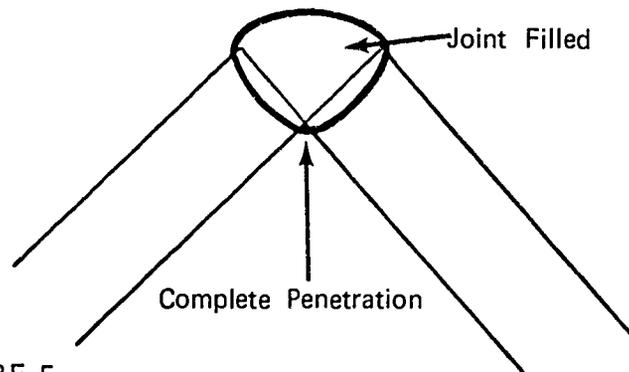

FIGURE 5
- H. Travel at a speed to completely penetrate joint leaving the face and root of the bead with a slight crown (Figure 5)